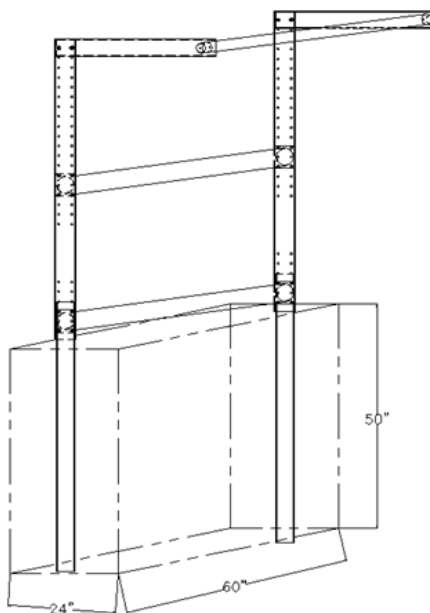

Fig. 8
10. Frame up the hole 2' x 5', then center the assembled barricade in the hole, with the lower crossbar assembly (C) at ground level. (Fig. 8)